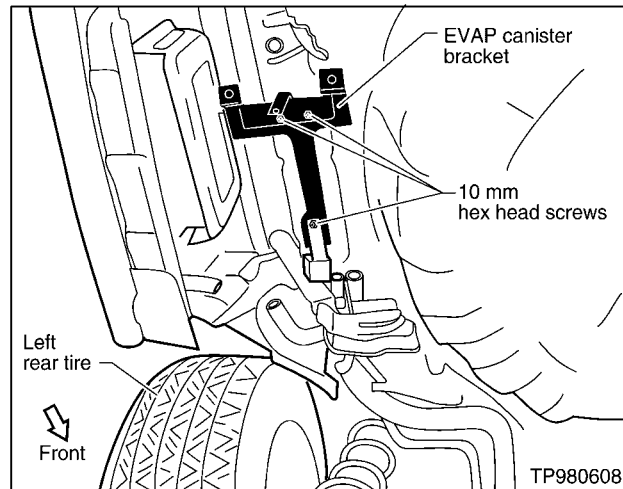

Figure 5
- A. Remove and discard the EVAP canister bracket ONLY (see Figure 5). Save the EVAP canister and bracket bolts for re-installation.